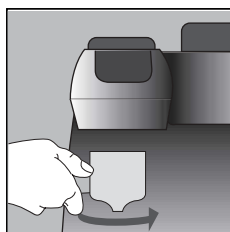

fig. 6
- 7 Attach the filter holder to the machine by positioning the handle to the left of the boiler outlet, then pushing upwards and turning the handle to the right (fig. 6).